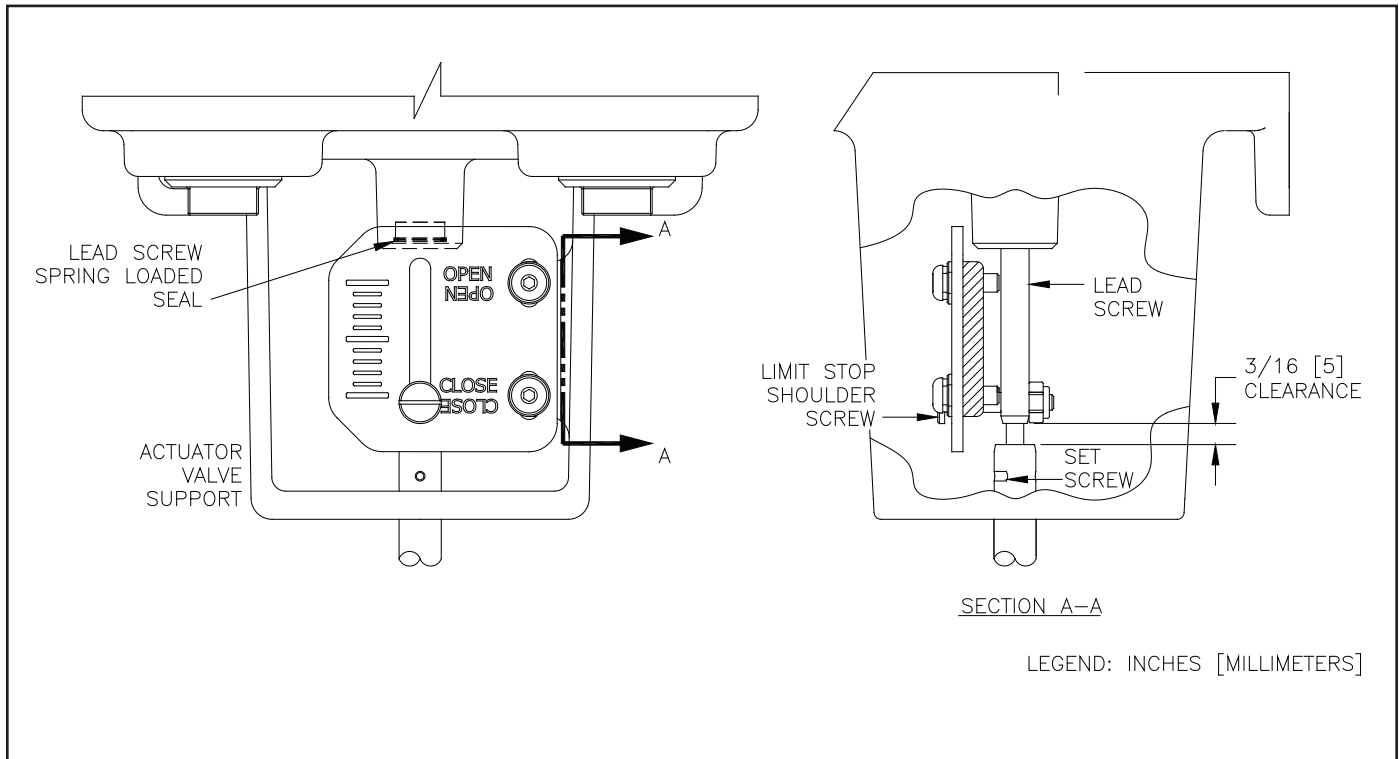

Figure 15 - Motor Frame Assembly
2. Using the manual control knob on top of the actuator, position the lead screw (shown in Figure 15) so that the lower end of the screw is accessible below the scale plate.